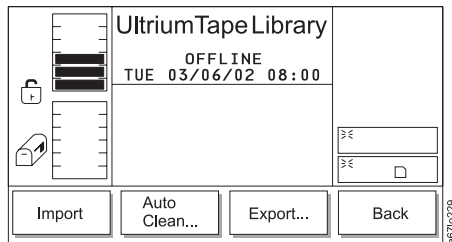

Figure 4-79. I/O Station Submenu
2. Press the button below the **I/O Station** softkey. The I/O Station Submenu displays (see Figure 4-79).
4. To return to the I/O Station Submenu (see Figure 4-79), press the button below the **OK** softkey. To return to the Main Menu press the button below the **OK** softkey, then press the button below the **Back** softkey until the Main Menu displays.